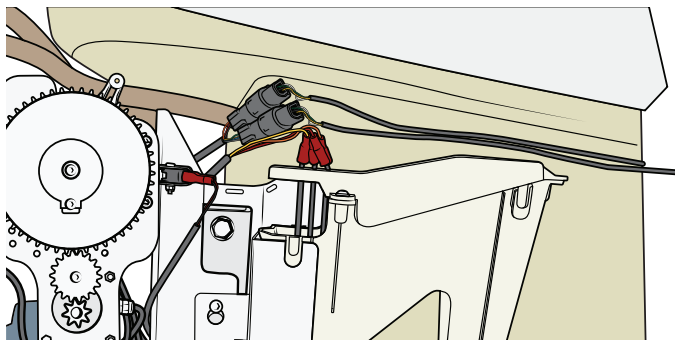

Figure 76
13. On the left side, connect the Side panel connector. If equipped with Underwater lights, connect the two LED light quick connections. See Figure 76.